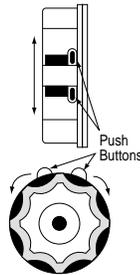

Figure 12
- C. Set upper limit by depressing and releasing the proper push button (see Fig. 12).
- E. Set lower limit by depressing and releasing the yellow push button (see Fig. 12).